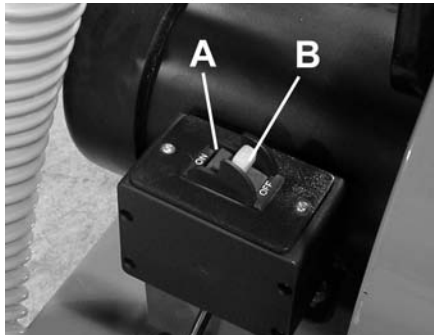

Figure 5
1. The dust collector can be turned on by flipping the switch (A) Fig.5 into the on position. Flip to the off position to turn dust collector off.
2. There is a removable safety key (B) in the tip of the switch that can be removed when in the off position. When the key has been removed the dust collector cannot be used.